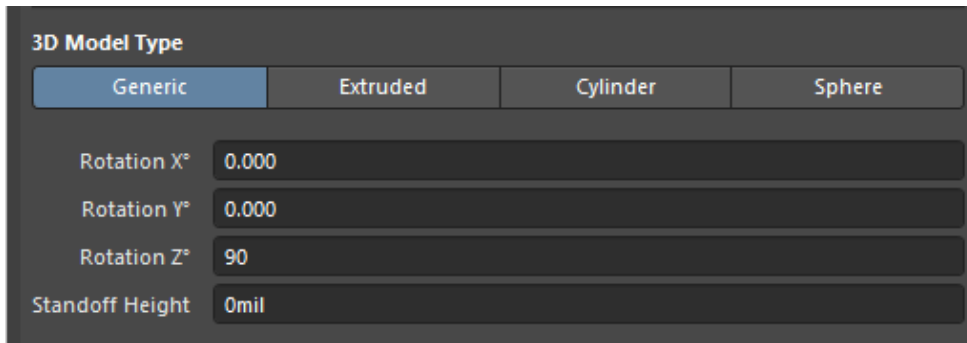

Figure 1. Change Model Rotation in 3D Body Dialog
8. In the *Properties* panel, change the *Rotation Z°* to 90 as shown in Figure 1.